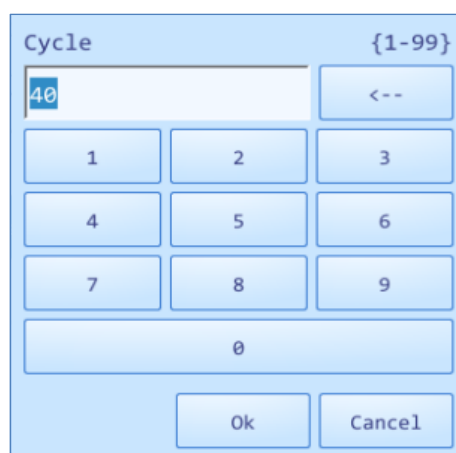

Figure E-3.2. Cycle Edit Box
- ▶ User can select a certain stage and press its cycle number in the corresponding **Cycle** column, the cycle edit box will pop up as shown in figure E-3.2.